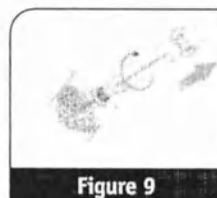

Figure 9
14. **Remove catheter from patient.** Gently twist clockwise while slowly applying traction to catheter. **DO NOT ROCK OR BEND THE CATHETER DURING THIS PROCEDURE.** (See Figure 9)